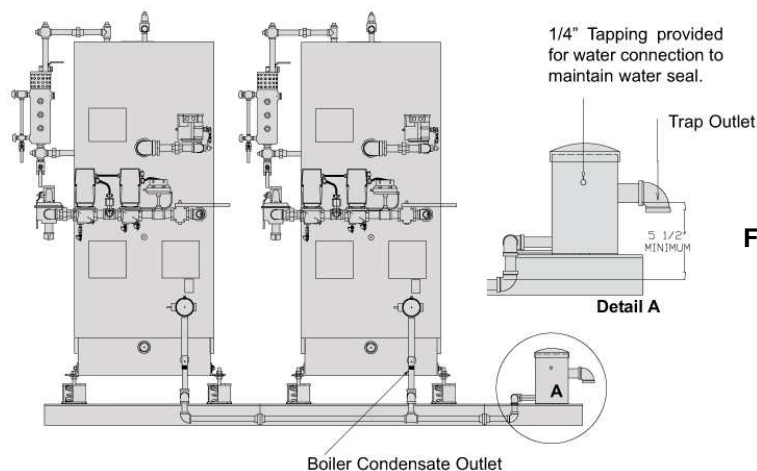

Figure 3b
12. Installing Condensate Drain Piping (Figure 3b)